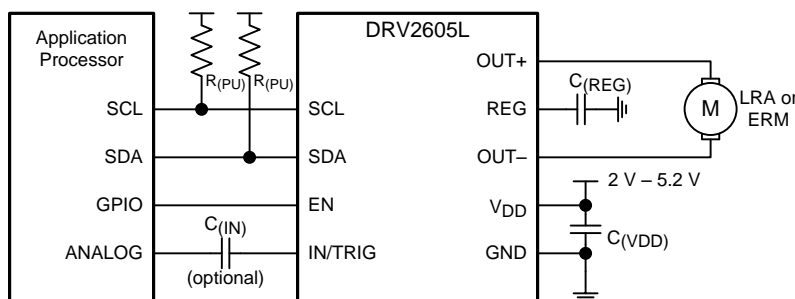

Figure 59. I²C Control With Audio-to-Vibe Input and Optional AC Coupling
A system designer can also implement audio-to-vibe. Figure 59 shows a typical haptic system implementation supporting audio-to-vibe.
The I²C interface is required to configure the device. The device can be used fully with the I²C interface and with either RTP or internal memory. The advantage of using the I²C interface is that no additional GPIO (for the IN/TRIG pin) is required for firing effects, and no PWM signal is required to be generated. Therefore the IN/TRIG pin can be connected to GND. Using the external trigger pin has the advantage that no I²C transaction is required to fire the pre-loaded effect, which is a good choice for interfacing with a button. The PWM interface is available for backward compatibility. If audio-to-vibe is desired, then use C_(IN) as shown in Figure 59.